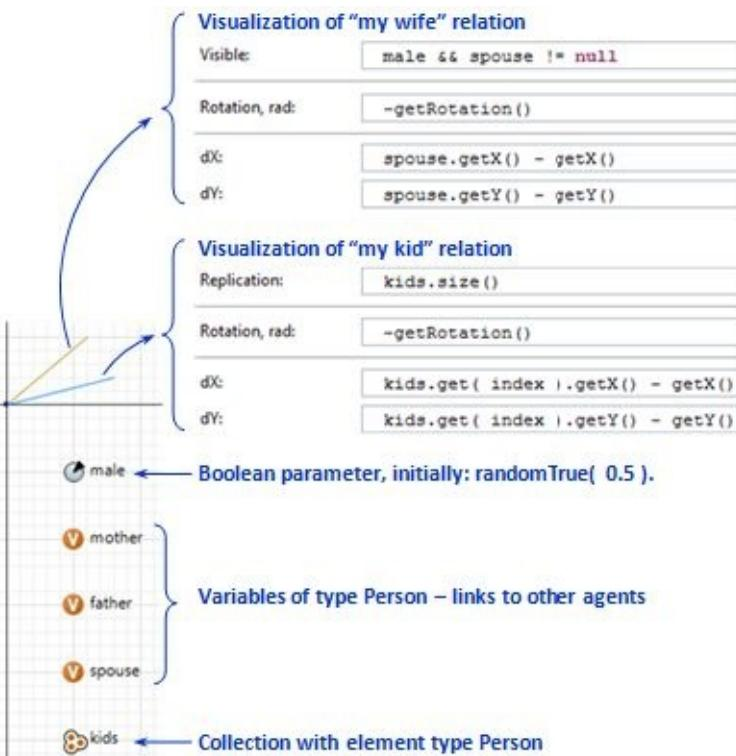

Figure 3.40 Links to the agents in kinship and their visualization
9. Draw two lines with the start points at the coordinate origin of the *Person* and dynamic properties, as shown in Figure 3.40. These lines will visualize the kinship relations of the person. Note that we are only visualizing the relation wife and kid, and we do not draw the lines for husband and father/mother to avoid duplication.